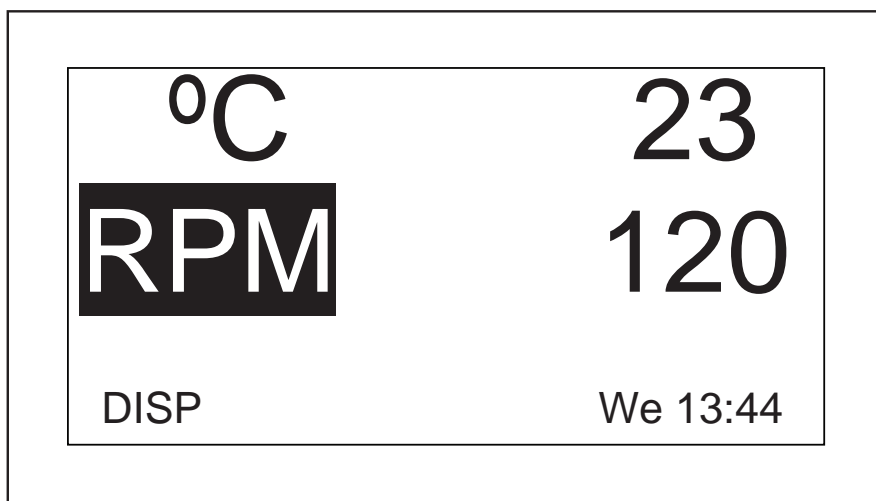

Fig. 9-1: Changing display parameter
1. Using the control knob, highlight the parameter that you wish to replace. For this example, we will replace RPM (see Fig. 9-1 on p. 48).